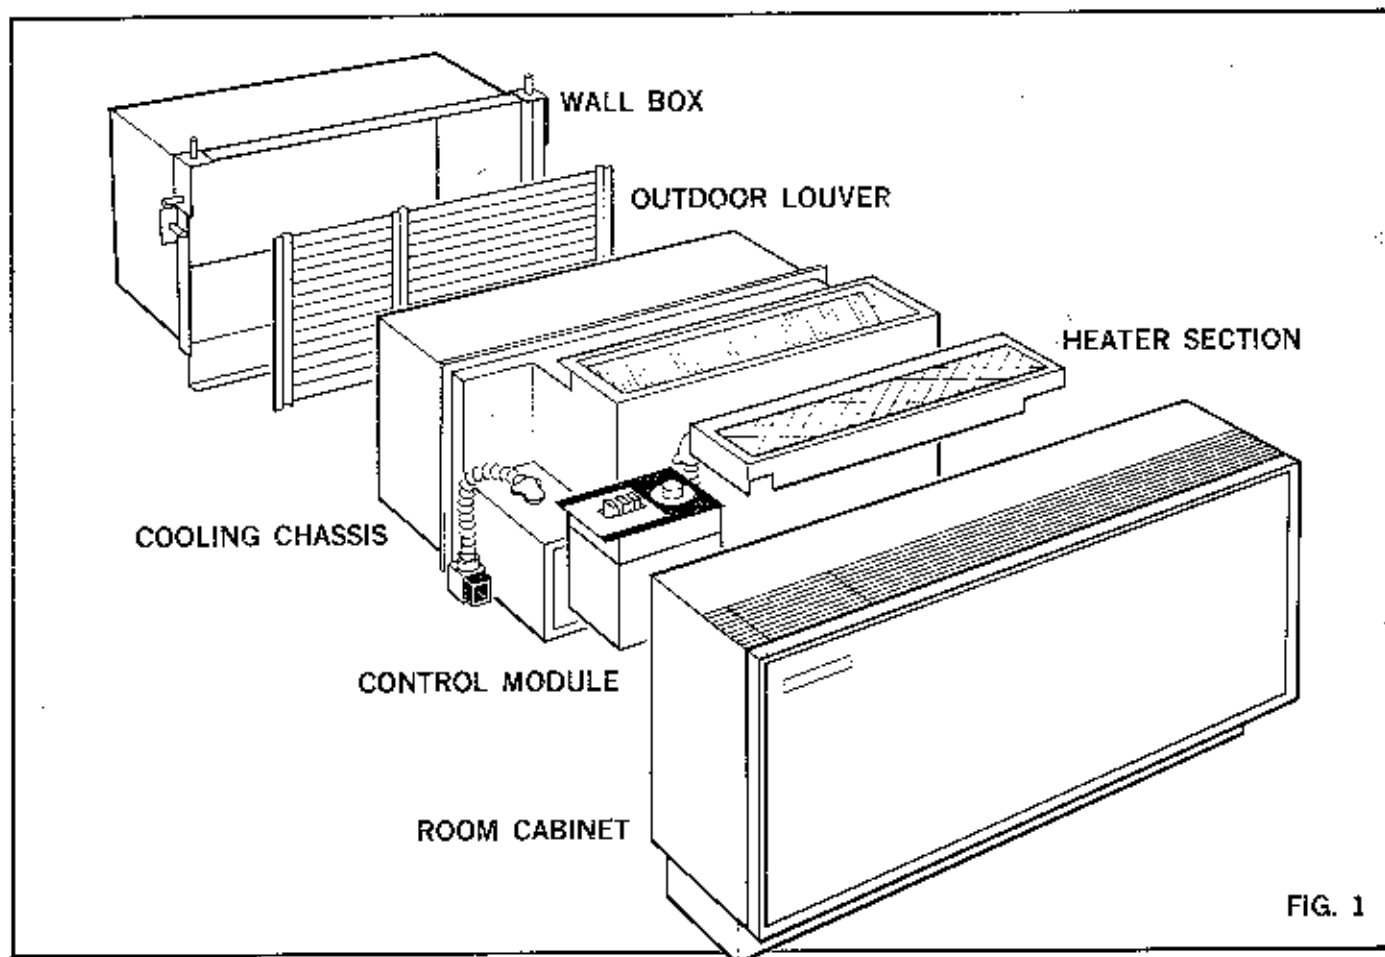

FIG. 1
Figure 1 shows a complete all electric Series 700 Friedrich conditioner. This conditioner is packaged and shipped in six individual cartons as follows: (1) outdoor louver, (2) wall box, (3) cooling chassis, (4) heating section, (5) control module, and (6) room cabinet.